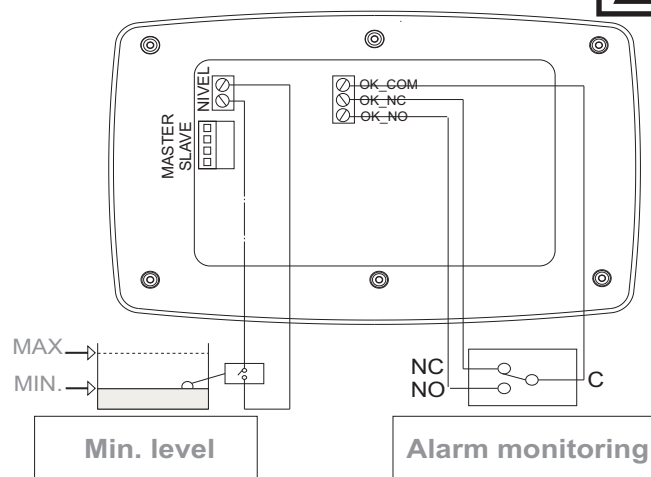

fig. 5
- Min. level control (optional). There is an input for stopping the pump as soon as is disconnected the external switch of minimum level. See fig.5.
- M** → originated by irregularities or problems of the system. See fig.5.